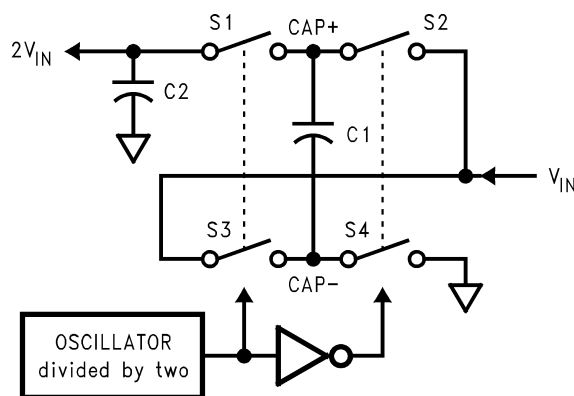

Figure 14. Voltage Doubler Principle
The doubler contains four large CMOS switches which are switched in a sequence to double the input supply voltage. Figure 14 illustrates the voltage conversion scheme. When S2 and S4 are closed, C1 charges to the supply voltage V_{IN} . During this time interval, switches S1 and S3 are open. In the next time interval, S2 and S4 are opened at the same time, S1 and S3 are closed, the sum of the input voltage V_{IN} and the voltage across C1 gives the $2V_{IN}$ and the voltage across C2 gives the $2V_{IN}$ at V_{DBL} output. V_{DBL} supplies the LDO regulator. It is recommended not to load V_{DBL} when V_{05} has a load of 50mA. For proper operation, the sum of V_{DBL} and V_{05} loads must not be more than 50mA.
- R_{SW} is the sum of the ON resistance of the internal MOSFET switches as shown in Figure 14